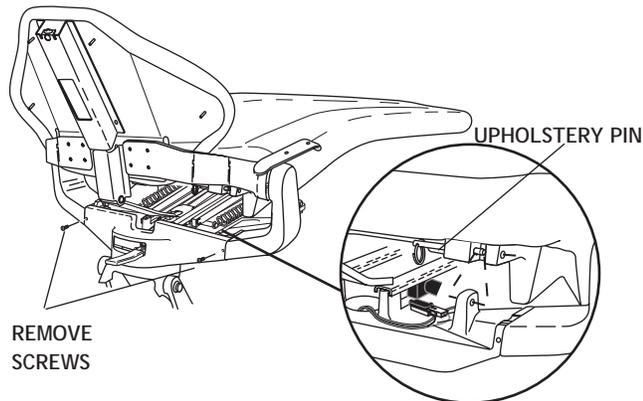

Figure 9. Seat Upholstery Removal
3. Remove the upholstery pin on both sides of the chair casting to remove the seat upholstery (see Figure 9).